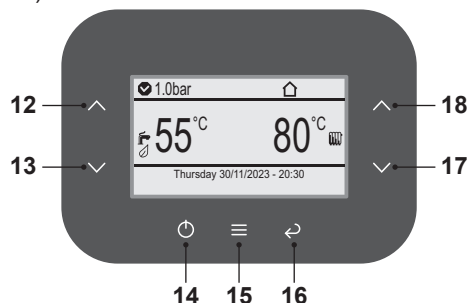
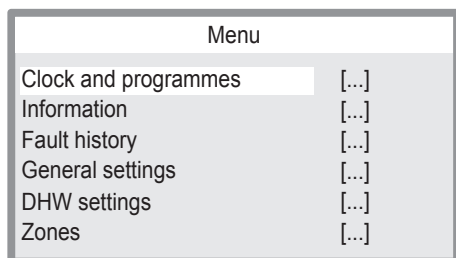
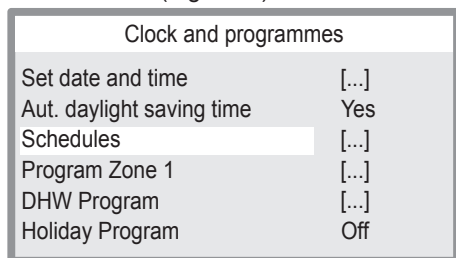
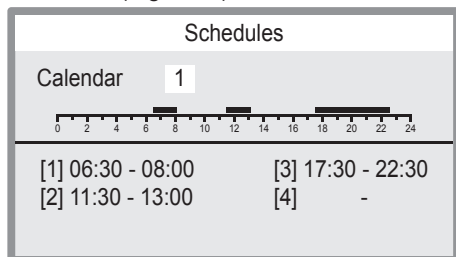

Fig. 2.12
Fig. 2.14
Fig. 2.15
Fig. 2.16
- Press key 15 (Fig. 2.12) to access the main menu (Fig. 2.13).
- Press key 12 or 13 (Fig. 2.12) to select the desired menu (Fig. 2.14).
- Press key 15 (Fig. 2.12) to access the selected menu (Fig. 2.15).
- Press key 12 or 13 (Fig. 2.12) to select the schedule to be modified (1 to 4) (Fig. 2.16).
- Press key 17 or 18 (Fig. 2.12) to access the time brackets (1 to 4).
- Press key 12 or 13 (Fig. 2.12) to change the time of the various points in the time brackets (Fig. 2.16).
- Press key 15 (Fig. 2.12) to confirm the change or key 16 to exit without changing the value (return to previous level).